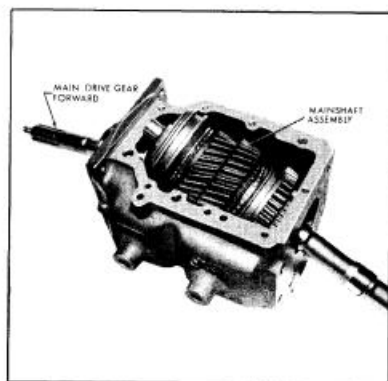

Figure 4-10—Removing Mainshaft Assembly
18. Remove mainshaft assembly through top of case. See Figure 4-10